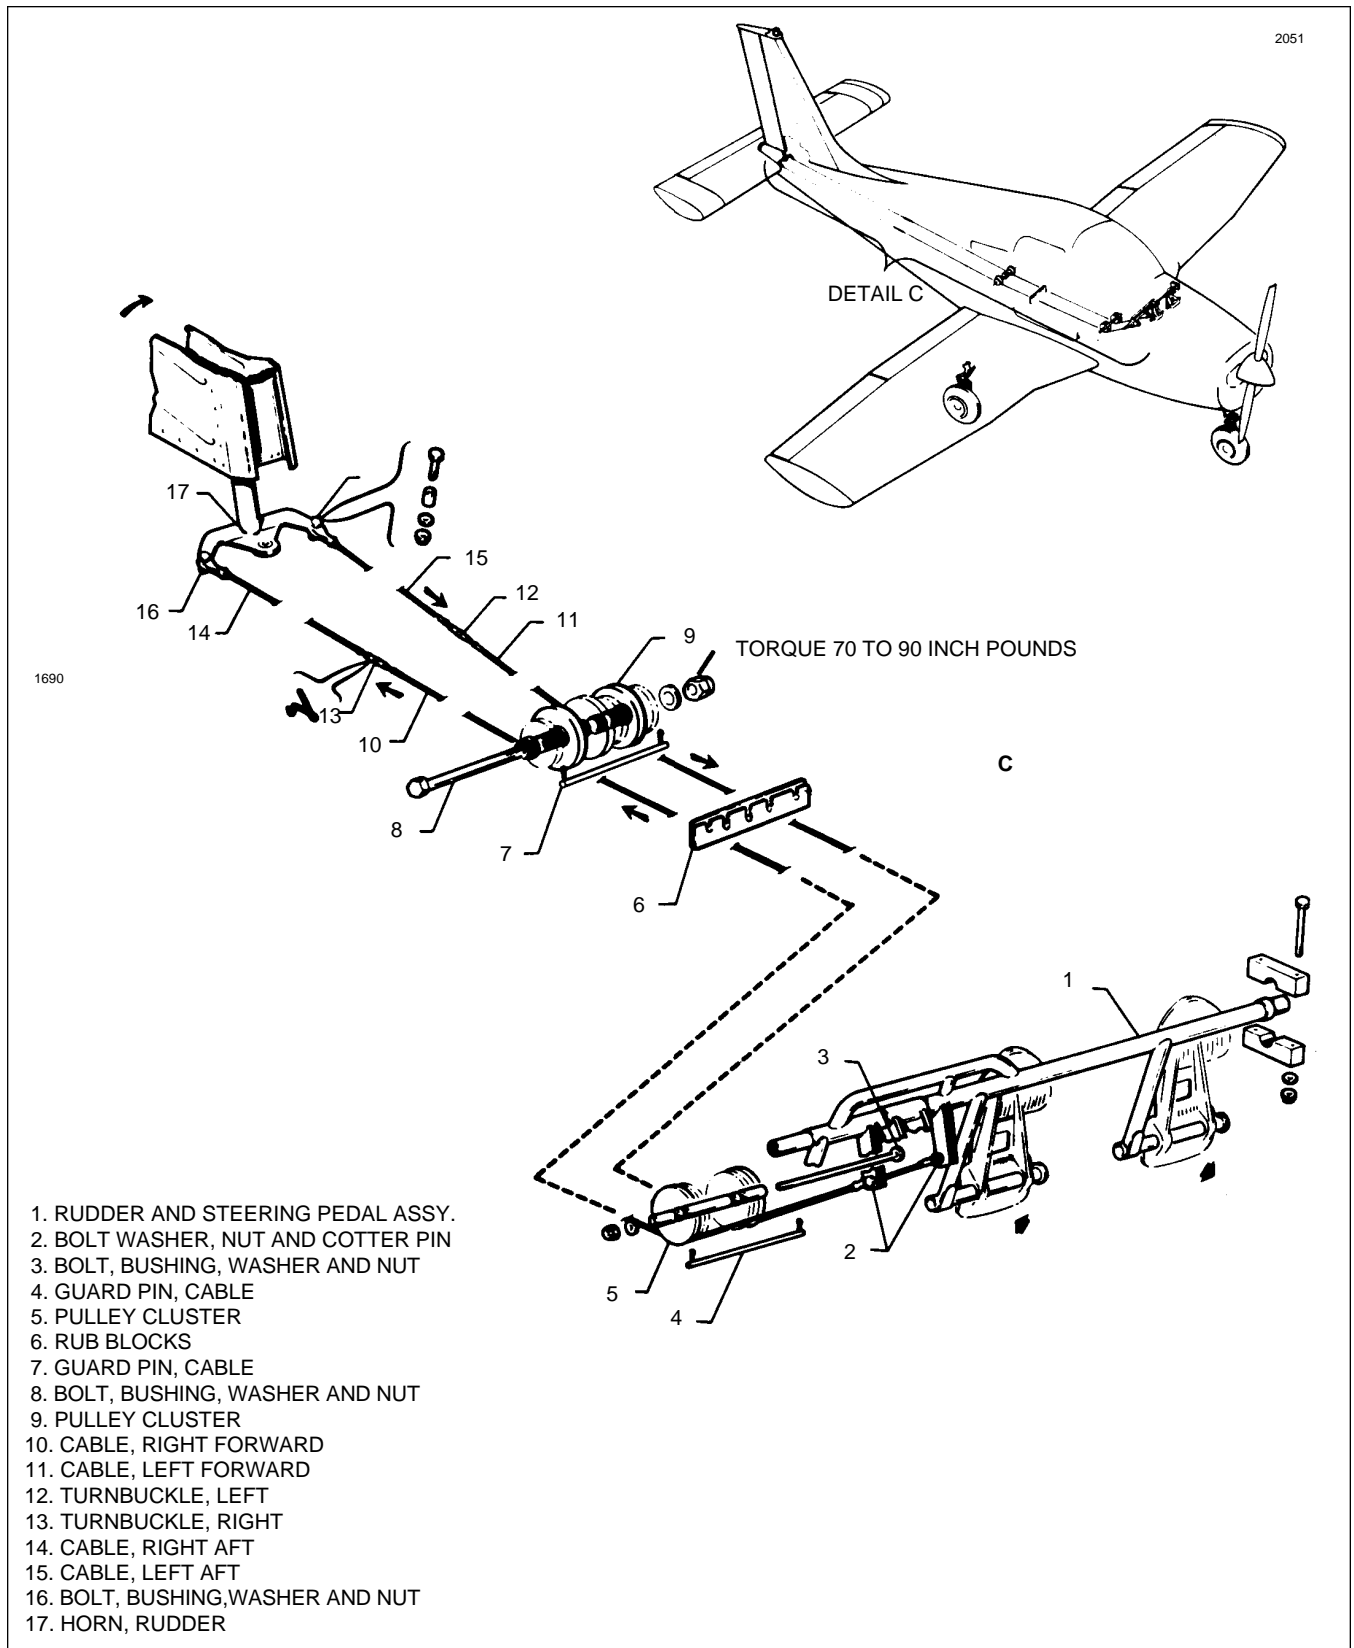

Figure 5-10 Rudder Controls
2. A rigging tool may be fabricated from dimensions given in Figure 5-17 to aid in rudder rigging. With the rudder against its stop, place the rigging tool against the side of the rudder and vertical stabilizer as shown in Figure 5-10. Ascertain that the tool is not contacting any rivets. If no gaps exist between the rigging tool and the surface's of the rudder and stabilizer the stop for that direction of travel is correct as required in Table V-I.